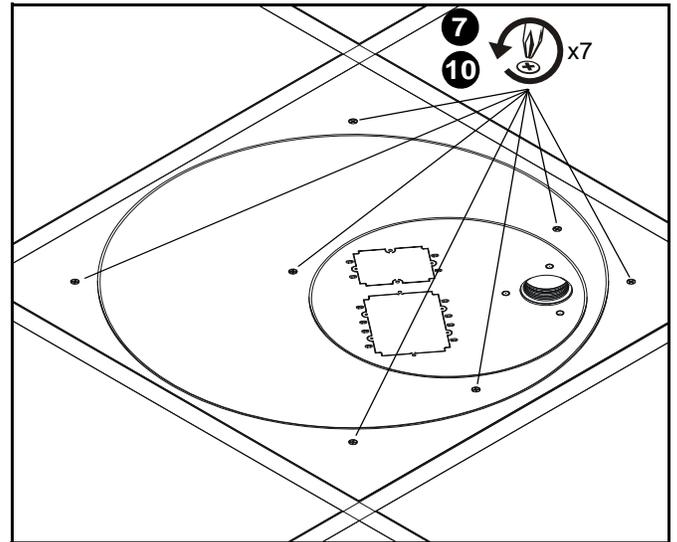

Figure 3
5. Press center tip of tool (M) into *finished* side of ceiling tile at marked location. Cut extension column hole through tile using back and forth hand twisting motion.
7. Loosen seven clamp screws in lower (finished) side of tray (A) (See Figure 3).
- 10. Tighten clamp screws (See Figure 3).